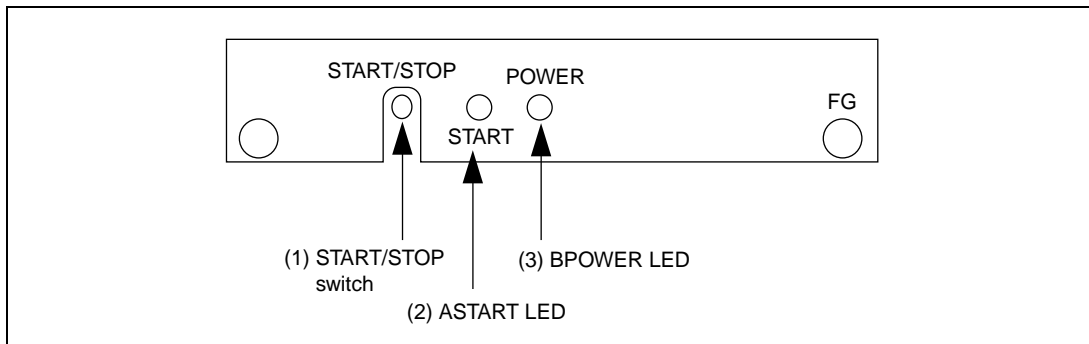

Figure 3.11 Boot Mode Settings
(7) Setting Up Boot Mode
Set the switches as shown in Table 2.9, then press the START/STOP switch on the adapter board ((1) in Figure 3.11). The START LED turns ON.
(5) Setting up for user program mode
Set the switches shown in Table 2.10, then press the START/STOP switch on the adapter board ((1) in Figure 3.11). The START LED lights and user program mode starts.
(6) Running the on-board programming software